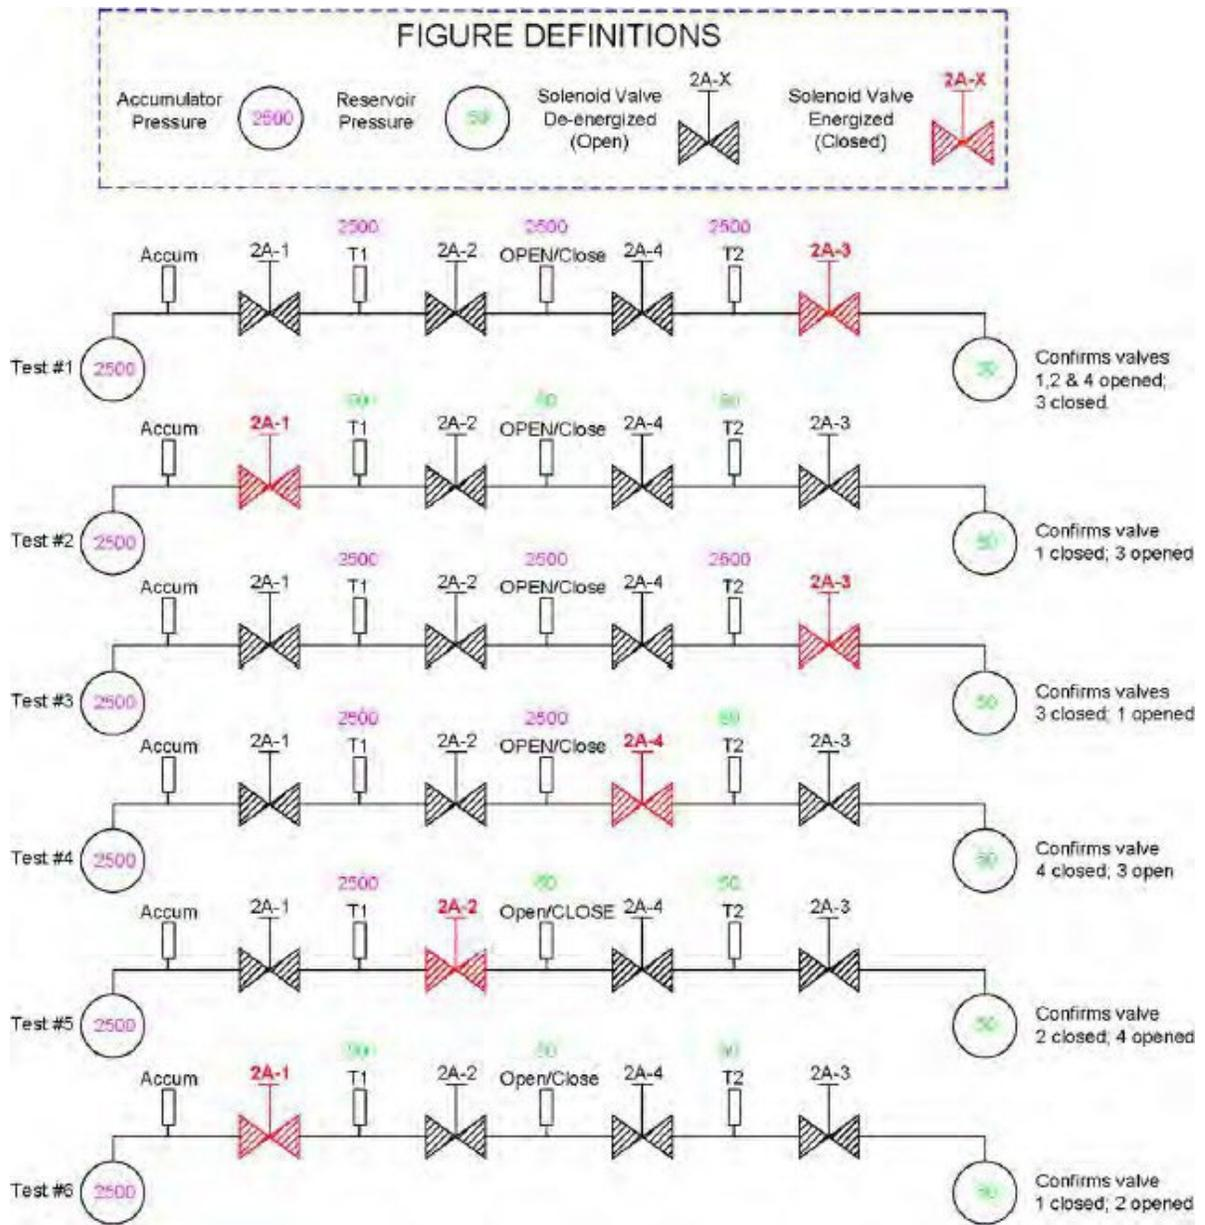

Figure 6: Simplified Solenoids Testing Sequence
**Test 1 (Reference Figure 6)**
**Test 2 (Reference Figure 6)**
**Test 3 (Reference Figure 6)**
**Test 4 (Reference Figure 6)**
**Test 5 (Reference Figure 6)**
**Test 6 (Reference Figure 6)**